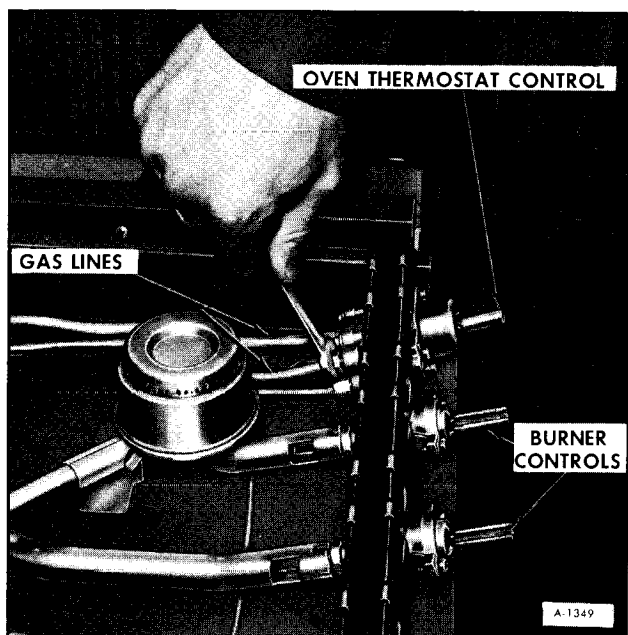

Figure 9—Disconnecting Gas Lines From Rear Of Thermostat
5. Disconnect gas lines from rear of thermostat control as shown in Figure 9.